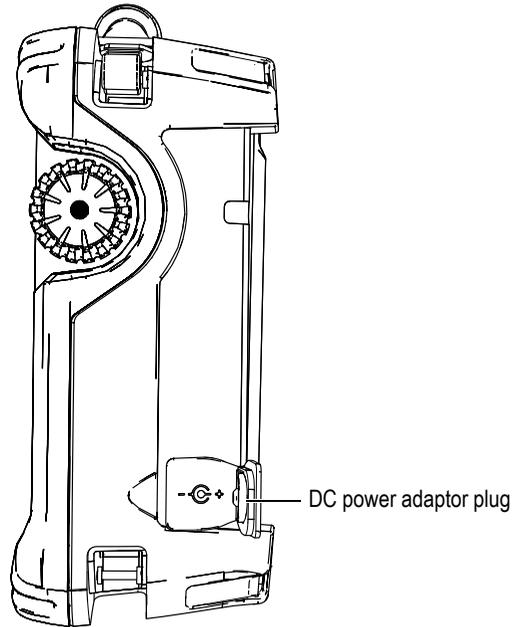

Figure 3-4 The OmniScan SX DC power adaptor plug
2. On the right-hand side of the OmniScan SX, lift the rubber seal covering the DC adaptor connector plug (see Figure 3-4 on page 41).
3. Connect the DC power adaptor to the OmniScan SX DC power adaptor plug (see Figure 3-4 on page 41).